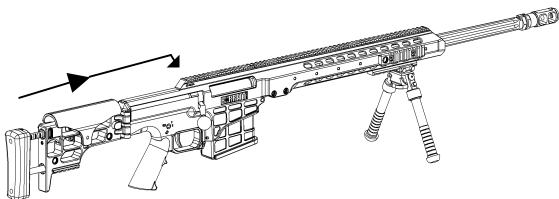

Figure 19.
3. GENTLY slide the bolt forward and down until it stops. (*Figure 19.*)